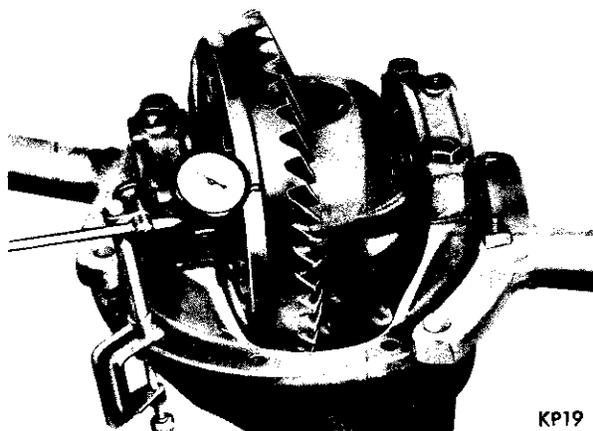
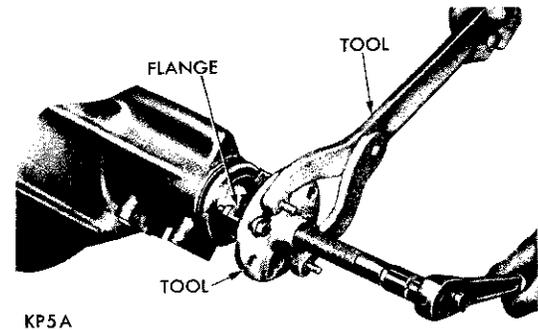

Fig. 15—Checking for Runout and Zero End Play
Fig. 16—Removing Companion Flange
- (1) Mount the carrier in Stand DD-1014 and attach the dial indicator Tool C-430 or Tool C-3339 to the differential carrier flange so the pointer of the indicator squarely contacts the back face of the ring gear (Fig. 15). Make certain there is no end play in the differential side bearings. If end play is evident, remove the adjuster lock and slightly loosen the bearing cap on the gear tooth side. Tighten the adjuster sufficiently to eliminate the end play.
- (2) Rotate the drive gear several complete revolutions while noting the total indicator reading. This reading must not exceed .005 inch runout. If the indicator reading exceeds the .005 inch runout, it will be necessary to take a second reading after the drive gear has been removed. This operation is covered during "Differential Disassembly." Remove the dial indicator.
- (3) With the companion flange up, hold the flange with holding Tool C-3281 and remove the pinion shaft nut and Belleville washer.
- (4) Install the companion flange puller Tool C-452 and remove the flange (Fig. 16).